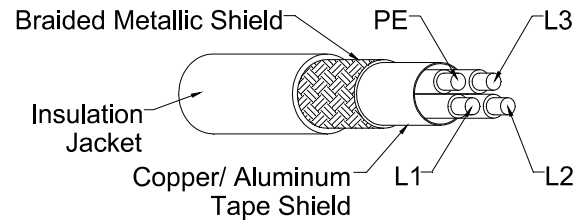

Figure 2b
- 100% aluminum foil / copper foil wrapping inside, and in braided shielding of 80% or more outside (as shown in figure 2b).